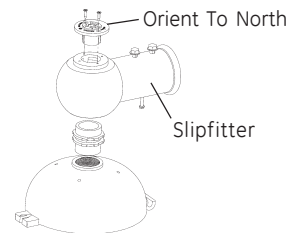

Figure 3
- For those slipfitters supplied with a photoelectric (PE) control receptacle, supply wiring should be pulled through the arm, slipfitter and into the top casting prior to threading top casting to slipfitter. Feed the wiring from photoelectric control into top castings. Once top casting is installed onto arm (see A. INSTALLATION OF LUMINAIRE) supply wire should be connected to the terminal board then connect PE wiring via connector (see WIRING instruction for proper routing and connection). Photoelectric control receptacle should be oriented before control is installed. Loosen and remove the two screws and rotate until "North" label is directed as near to true north as possible. Replace and tighten screws and install control. See Figure 3.